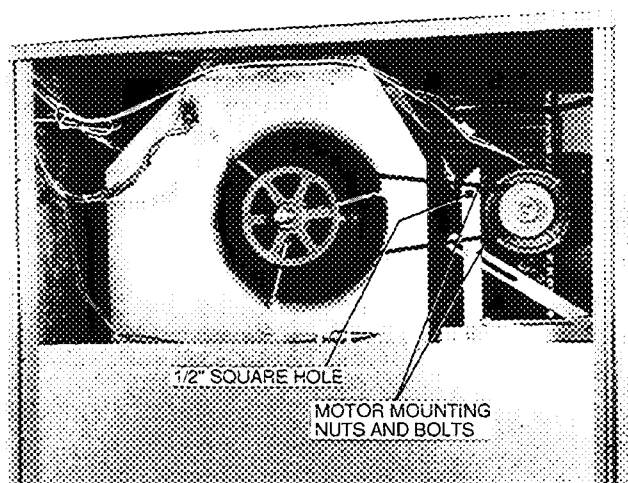

Fig. 22 – Belt Drive Motor Mounting
- Loosen belt by loosening fan motor mounting nuts. See Fig. 22.